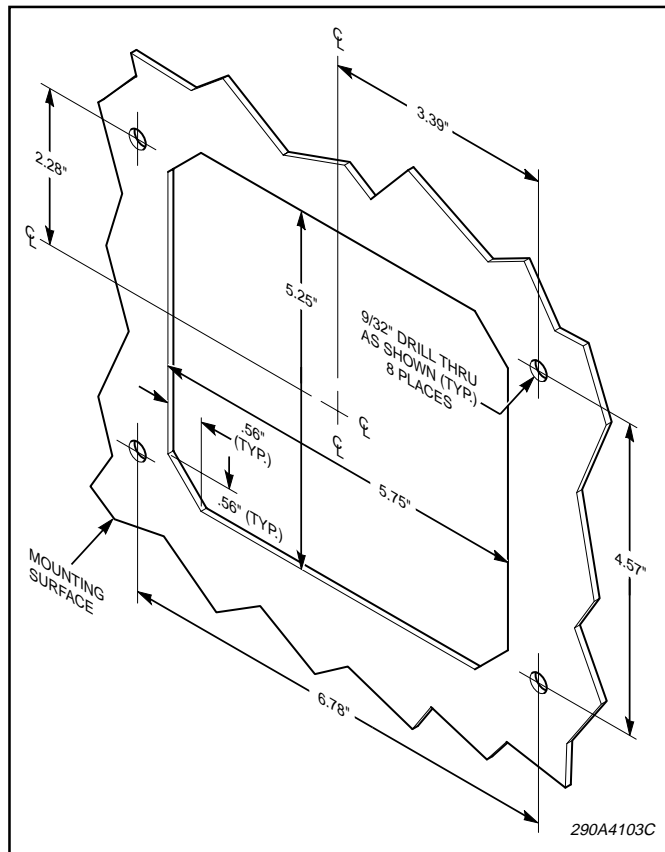

Figure 1.
2. Use figure 1 as a guide and cut the pattern in the bumper.